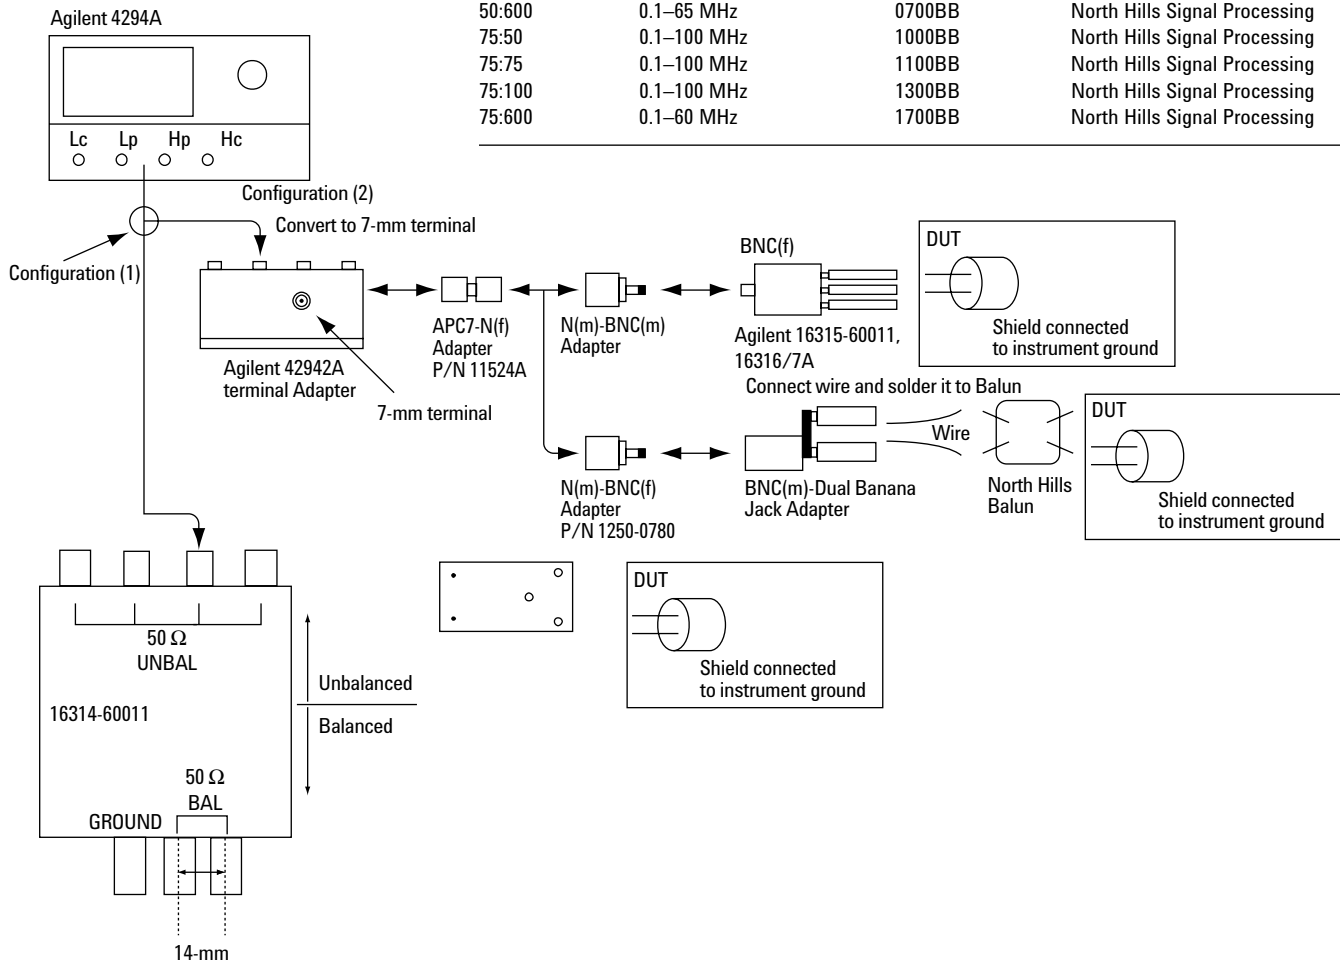

Figure 4. Measurement configurations with 4294A
Figure 4 shows impedance measurement configuration (1)/(2) with the 4294A.